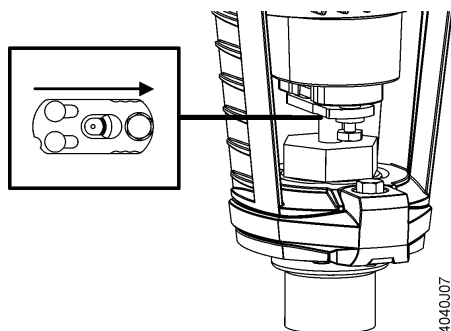

Figure 9.
7. Close the stem connection plate securely over the valve stem. See Figure 9.